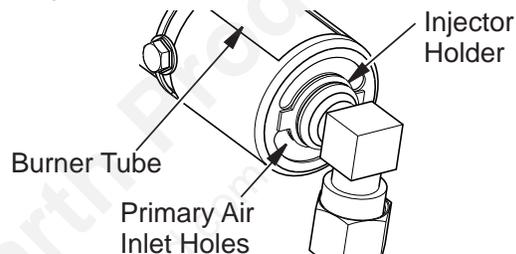

Figure 51 - Injector Holder On Outlet Burner Tube
2. Inspect burner, pilot and primary air inlet holes on injector holder for dust and dirt (see **Figure 51**).